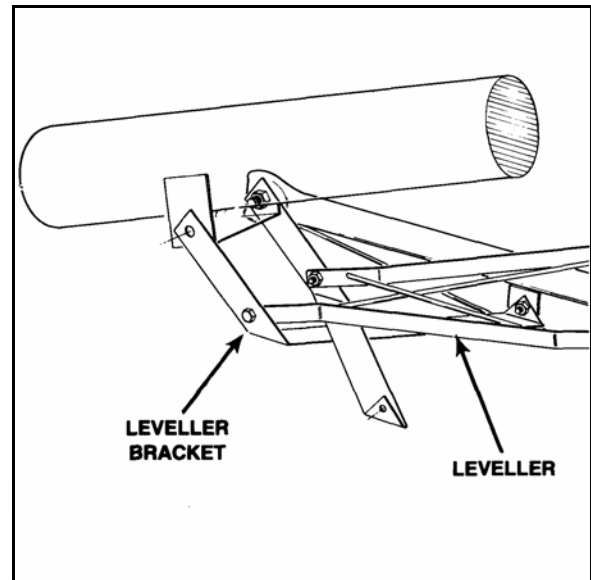

Figure 3.17
7. Attach leveler to leveler bracket on the lower-reach arms with two 7/16" x 1" bolts and locknuts. Do not overtighten. Tighten snug only; these bolts act as pivot points (Figure 3.17).